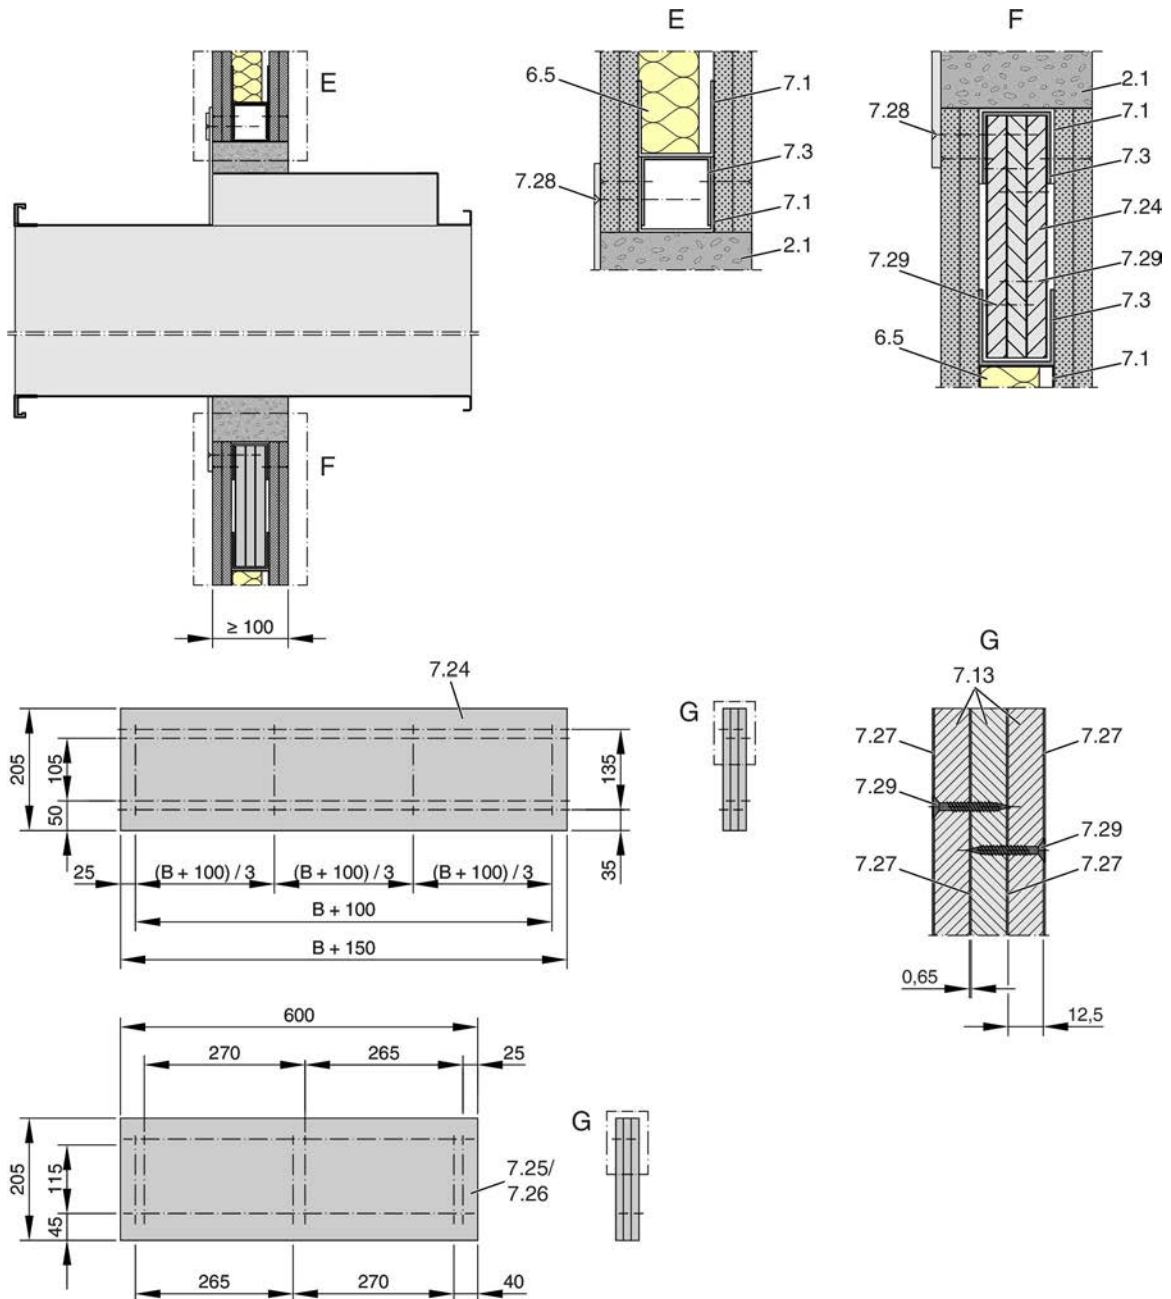

Fig. 21: Fixing blocks for the electric blade opening actuator
- Fire dampers with electric blade opening actuator: Reinforce the lightweight partition wall or compartment wall with a fixing block; for details see Fig. 21